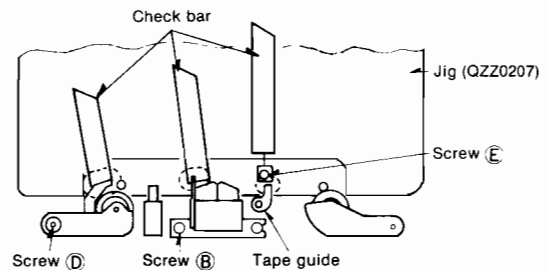

Fig. 8
- Return screw (A) by three turns, screw (B) by three turns and screw (C) by one turn.
- Set the jig (QZZ0207) in place and set the mode to “play”. Then adjust the heights of pinch roller (L), record/playback head and tape guide. By using the check bar as in Fig. 8, adjust the height adjusting screw so that the tape guide does not touch the screw.